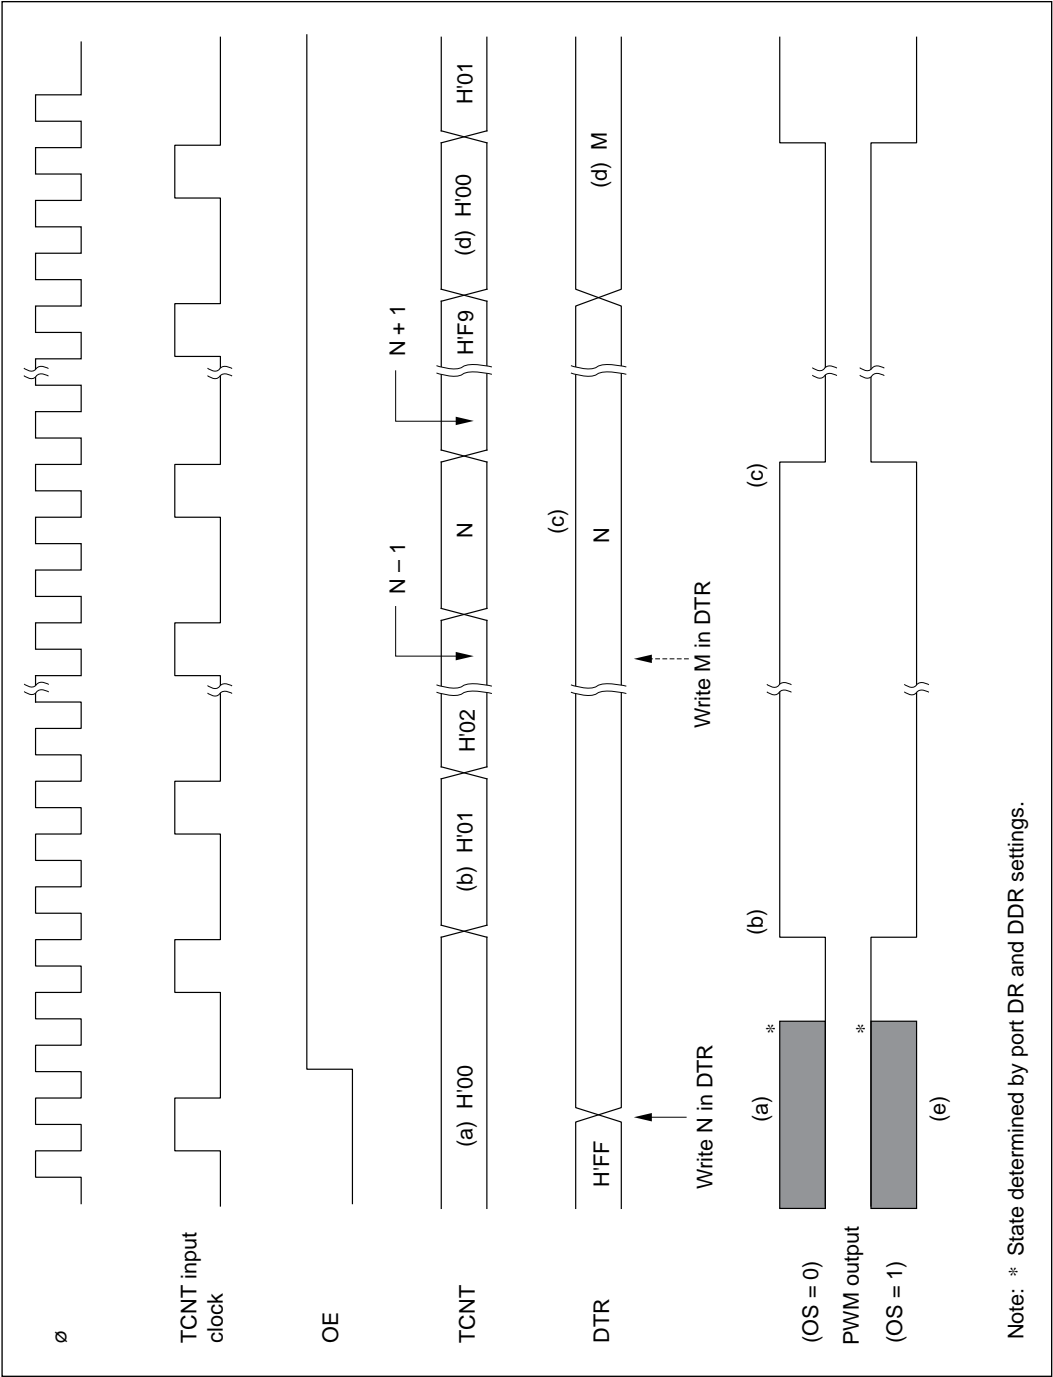

Figure 12-2 PWM Operation Timing
PWM timer operation is described below. Figure 12-2 shows a timing diagram.
(1) Direct Output (OS = 0)
- When OE = 0 [(a) in figure 12-2]
— TCNT begins counting up, and the PWM output goes to the 1 state. [(b) in figure 12-2]
— When the count reaches the DTR value, the PWM output goes to the 0 state. [(c) in figure 12-2]
— If the DTR value is changed (by writing M), the new value becomes valid after TCNT changes from H'F9 to H'00. [(d) in figure 12-2]
(2) Indirect Output (OS = 1): The PWM output is inverted. [(e) in figure 12-2]